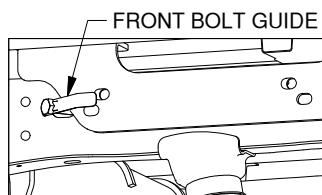
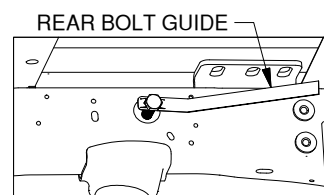

Figure B3: View from outside of driver side wheel well, front bolt guide installation step 1.
Figure B6: View under bed inside of driver side frame, rear bolt guide installation step 1.
- 2. Install the bolt guides.** Insert the front bolt guides (shorter ones) into the frame and guide the threaded end of the bolts out the holes, as shown in Figures B3 to B5. Insert the rear bolt guides through the large holes on the inside of the frame rails and guide the threaded end of the bolts out of the holes in the frame, as shown in Figures B6 to B8.